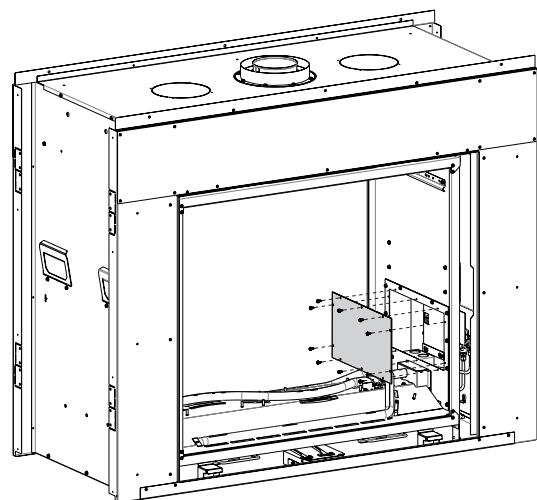

Figure 88
5. Remove Access Panel. **See Figure 88.**